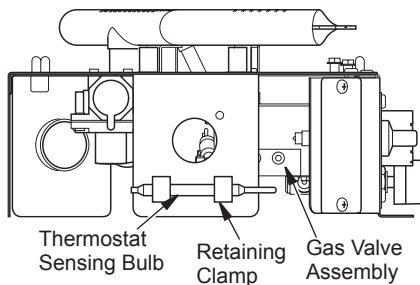

Figure 43 - Location of Gas Valve Assembly and Thermostat Sensing Bulb
1. Locate the gas valve assembly and thermostat sensing bulb (see Figure 43).